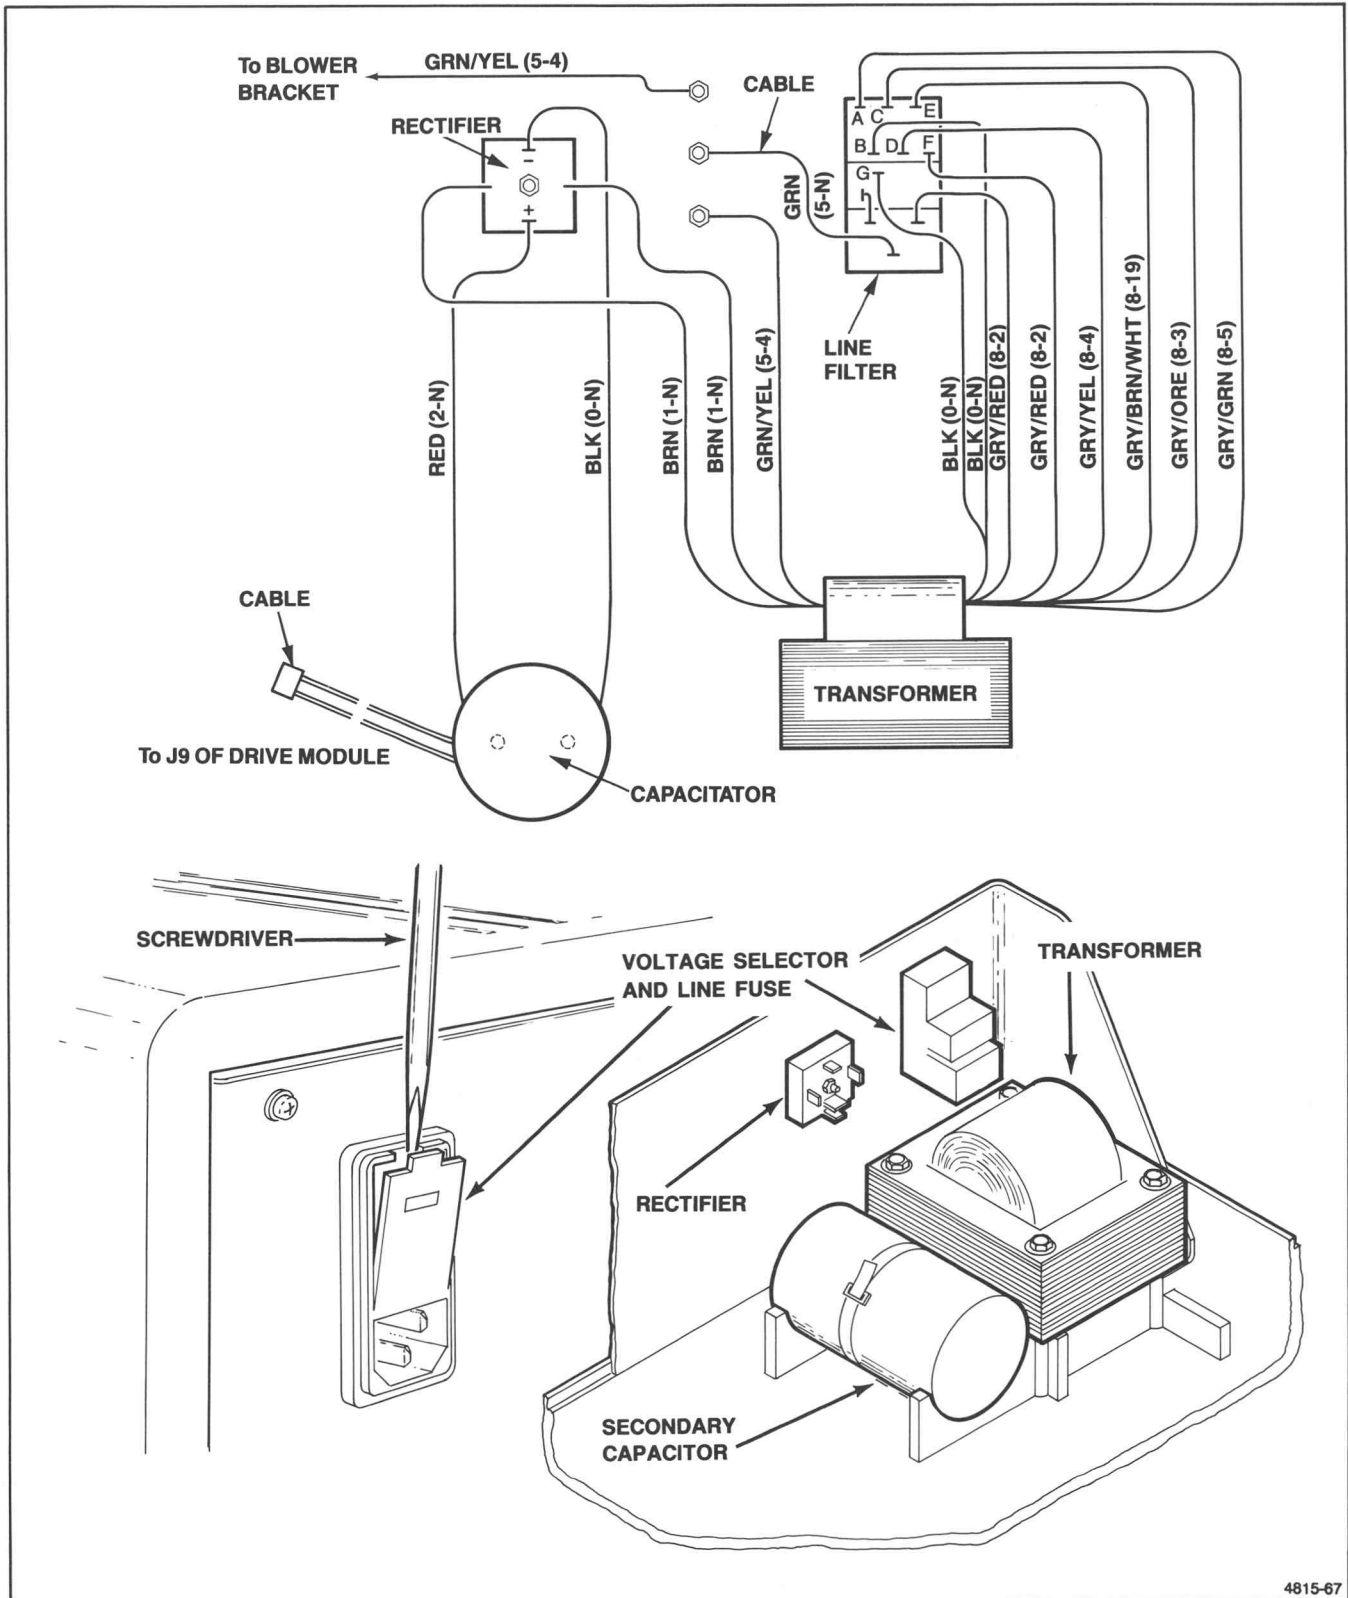

Figure 6-19. Power Supply Components.
The line voltage components consist of the line voltage selector, transformer, secondary capacitor, and the bridge rectifier. Figure 6-19 shows the connections between these components.
Removing and replacing the components shown in Figure 6-19 is easy. The following information provides helpful hints about each component.
4. Reinstall the wires from the transformer and ground lug to the line voltage selector — see Figure 6-19.